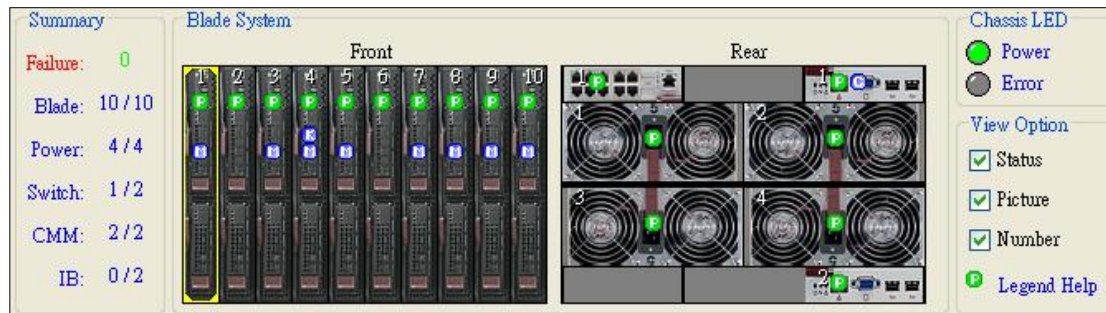

Figure 2-4
The Blade System View (Figure 2-4) provides an overview of the SuperBlade.
- **Blade System:** The Blade System View shows both front and rear views of the blade system. The front view shows blade module status while the rear view shows the status of the power supply, gigabit switch, InfiniBand and CMM. A yellow rectangle appears around an icon when it is selected (Figure 2-4). Each module has symbols to display its current status. Each SuperBlade module may display one or more symbols. Refer to the Legend Help (Figure 2-4) to determine the meaning of a symbol. (Click **Legend Help** in the View Option window at the lower right area of the window to view the symbols and their meanings.)